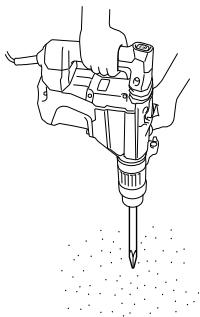

Fig. 11
2. How to chisel or demolish (Fig. 11)